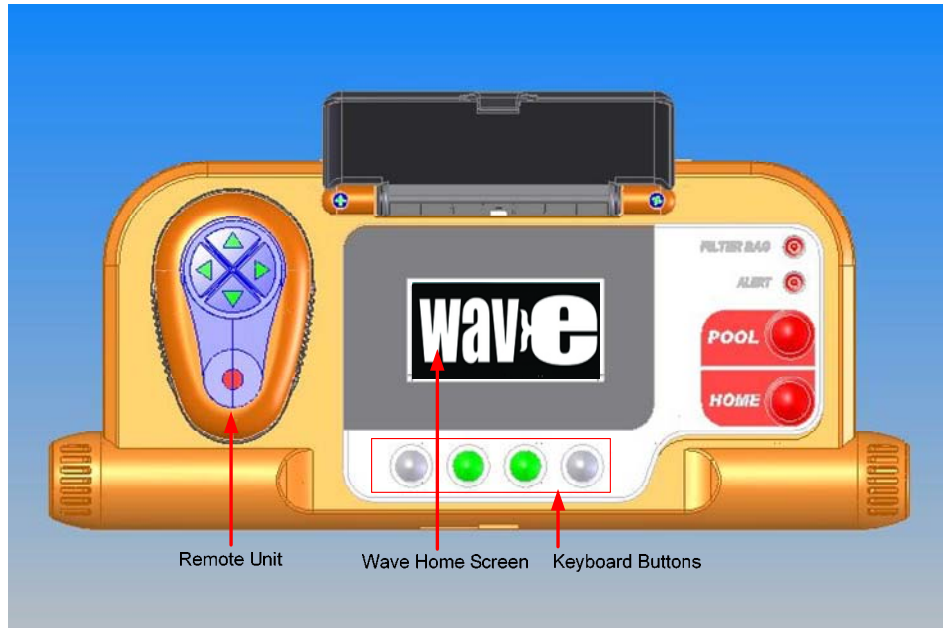

Figure 2: The MMI Dolphin Wave Console
- In this user manual, the instruction press "**Start**" is performed by pressing both green buttons -   - simultaneously on the MMI (see Figure 2).